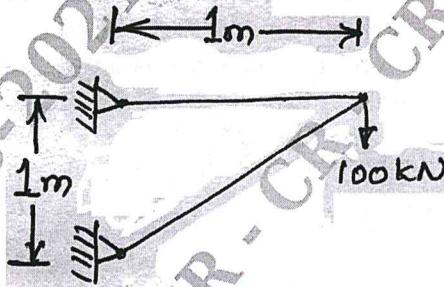

Fig Q6(b)
b. Determine the nodal displacement and stress in each element for the truss shown in Fig Q6(b), Take  $E = 210\text{GPA}$ ,  $A = 0.01\text{m}^2$ .